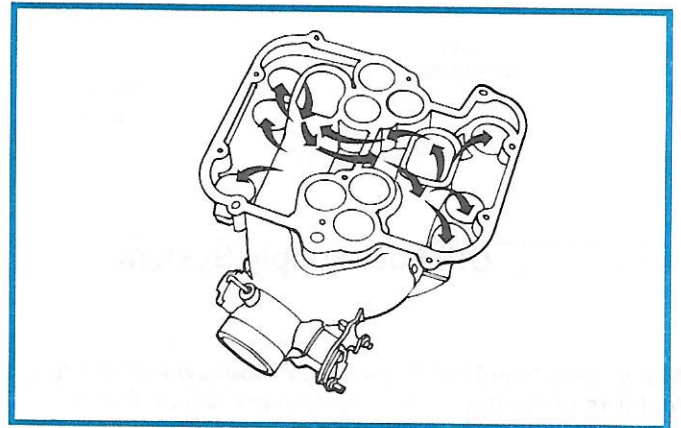

Figure 2-18, Manifold Airflow With IMTV Open
- During high-torque conditions, the ECM commands the IMTV by energizing the IMTV relay. The relay sends voltage to open the IMTV to redirect air within the manifold (figure 2-18). This increased airflow takes full advantage of all the tubes inside the manifold to improve engine high-rpm torque. The manifold under these conditions is similar to a single-plane design.